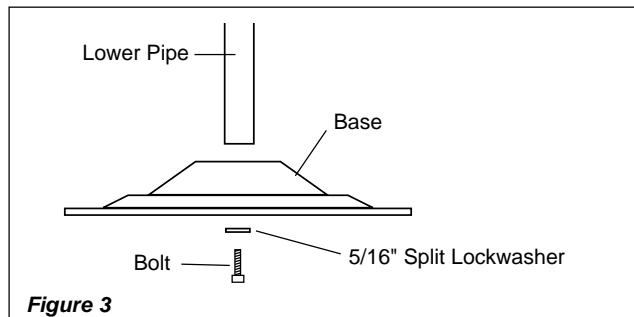

Figure 3
3. Attach Lower Pipe to Base using Bolt and Split Lockwasher. (Figure 3) FIRMLY tighten with supplied Hex Wrench.